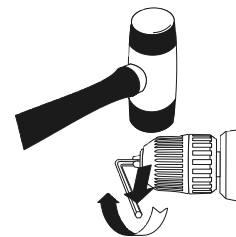

Fig. 10
2. Tap the hex key sharply with a mallet in a **CLOCKWISE** direction (Fig. 10). This will tighten the chuck on the spindle.